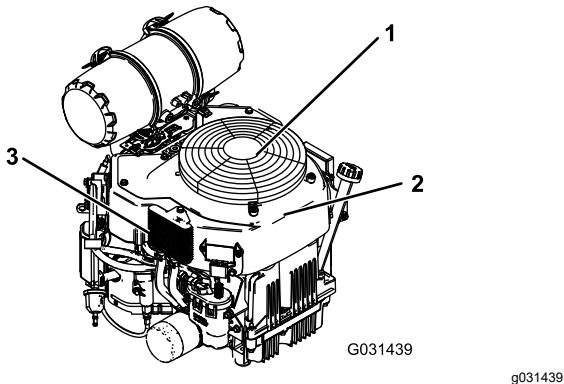

Figure 67
3. Remove the air-intake screen and fan housing (Figure 67).
5. Install the air-intake screen and the fan housing (Figure 67).